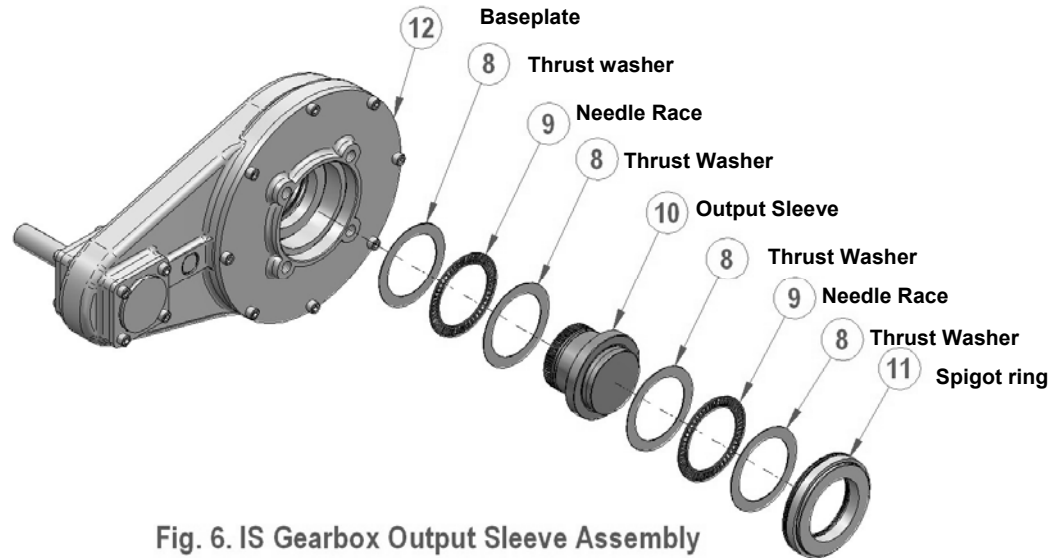

Fig. 6. IS Gearbox Output Sleeve Assembly
See Fig. 6: Note that the output sleeve arrangement is identical for IS and IB gearboxes. The sleeve (10) can be easily removed from the gearbox by first removing the loose piece spigot ring (11) from the baseplate (12). A slight force may have to be applied to the face marked 'C' to assist in removing the sleeve.
- 1) Ensure the machined output sleeve assembly is correctly assembled into the gearbox – refer to Fig 6.